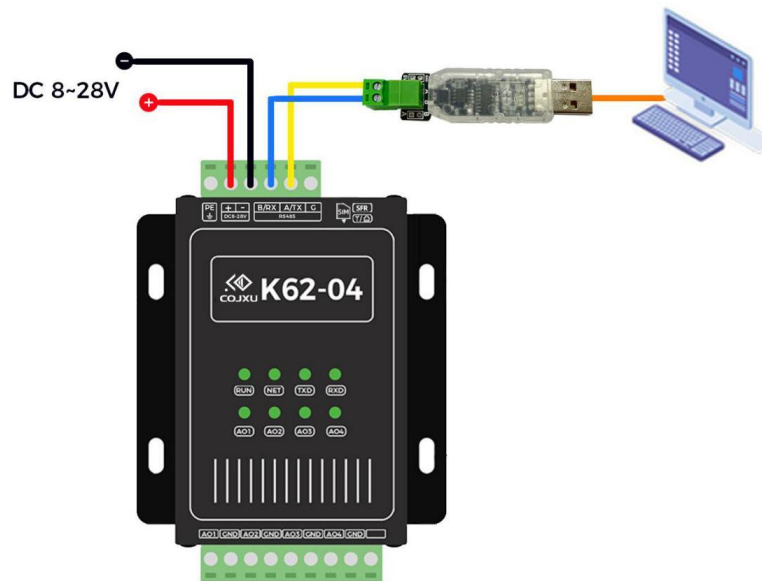

Figure 4-7 Schematic diagram of power supply and 485 hardware wiring
(1) Wiring connection: Connect the product hardware to the power supply and the "USB to 485" tool, and connect the "USB to 485" tool to the computer USB, as shown in Figure 4-7 below.